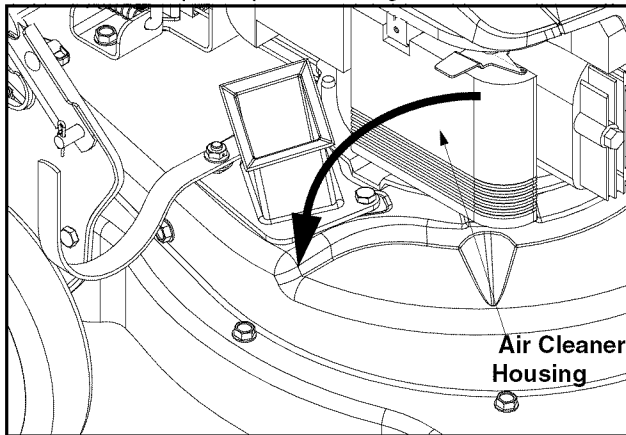

Figure 14
- Loosen screw and tilt plastic housing cover on side of engine down. See Figure 14.